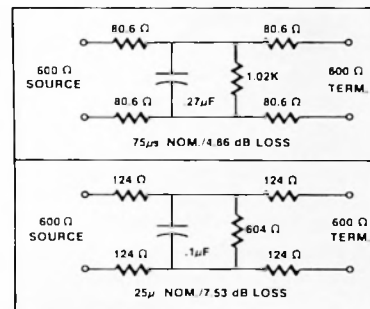

Fig. 10. Details for Constructing De-emphasis Filters for 25 and 75 Microsecond Characteristics (All Components 1% Tolerance)
4. De-emphasis filter (figure 10).
The 5L4N has a detailed calibration procedure in the operating manual. An external 5 watt 20 dB 600 ohm pad must be used ahead of the 5L4N to extend the measurement range from -10 dBm to +10 dBm full screen. Details of pads are shown in figures 10 and 11.
Note: A simple de-emphasis network can be built for use with any 600 ohm source. This filter will permit audio swept measurements of the transmitter while maintaining 100% modulation. If the network is used (figure 10) it is recommended that the response of the network be carefully checked after construction to verify that the response is complementary to the standard pre-emphasis curve.